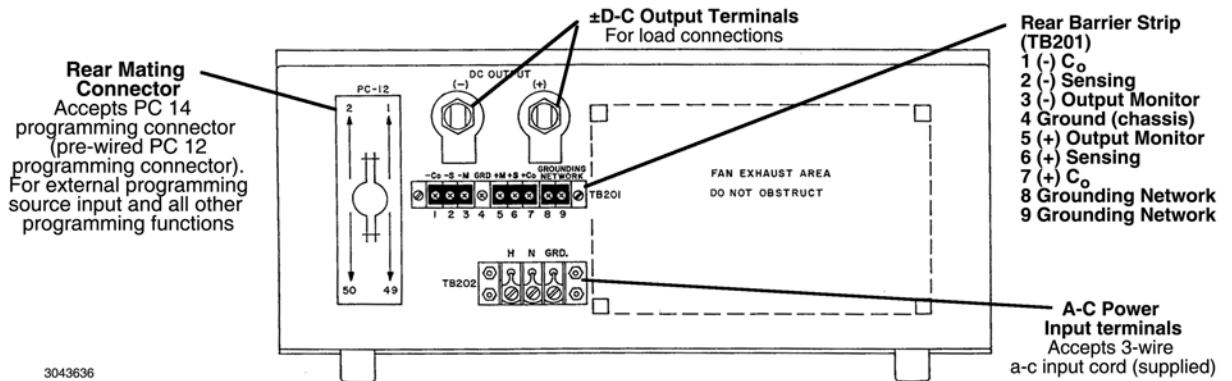

FIGURE 3. REAR PANEL TERMINATIONS
3.4. CONNECTIONS. Connections are made using the rear panel terminations (see Figure 3).
3.4.1. LOAD CONNECTION, GENERAL. Connect the load between -OUT and +OUT output power terminals at the rear panel (see Figure 3. **Sense connections are required, either local or remote, must be used; otherwise the unit will not operate.**
3.4.3. LOAD CONNECTION, REMOTE SENSING. To avoid excessive output effects at remote loads, remote error sensing must be used (Kelvin connection). A pair of wires (twisted to reduce EMI) connected from the sensing terminals directly to the load will compensate for load wire voltage drops up to 0.5 volt per wire (refer to Figure 3. 3-4). Observe polarities: the negative sensing wire must go to the negative load wire, and the positive sensing wire goes to the positive load wire.